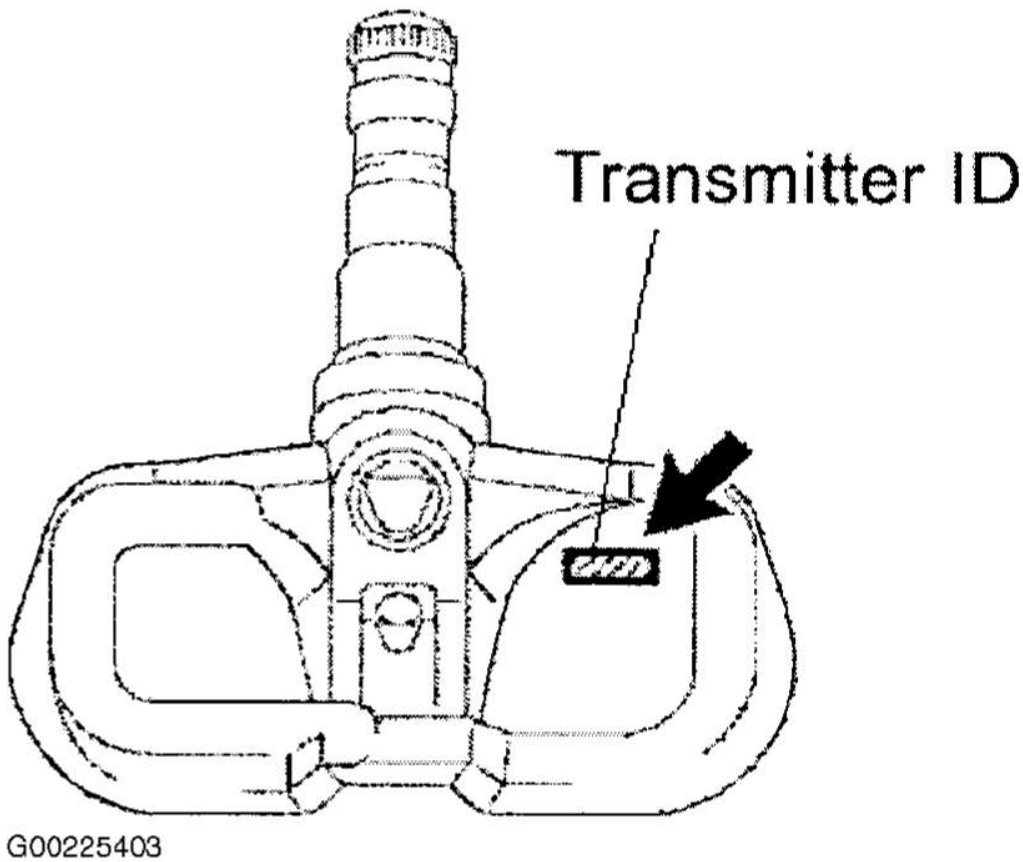

Fig. 4: Locating Tire Pressure Monitor Valve Sub-Assembly Transmitter ID
NOTE: Before beginning registration process on vehicles where tire pressure sensors have not been replaced, retrieve sensor transmitter ID(s) using Techstream or by reading the ID on the tire pressure sensor. If sensor is being replaced with a new one, make a note of the 7-digit number (transmitter ID) before installation, as it cannot be seen after sensor is installed. See Fig. 4.
NOTE: If the tire pressure valve sub-assembly is going to be replaced, make a note of the 7-digit number (transmitter ID) before installation, as it cannot be seen after sensor is installed. See Fig. 4. Whenever a new sensor is installed, it will need to be registered in the tire pressure monitor ECU.
1. Insert the tire pressure monitor valve into the valve installation hole. Insert from the inside of the rim so that the print surface can be seen. See **Fig. 4**. Check for the following:
- If installing a new tire pressure warning valve and transmitter, write down the ID number before installation. See **Fig. 4**. It will be necessary to register the ID in the ECU after installation.